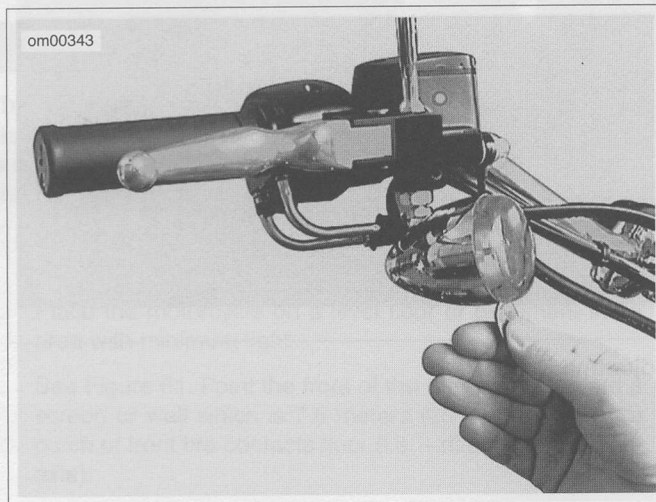

Figure 65. Lens Cap Notch
1. See Figure 65. To access the front or rear turn signal bulbs for replacement, locate a notch on the turn signal lens cap.